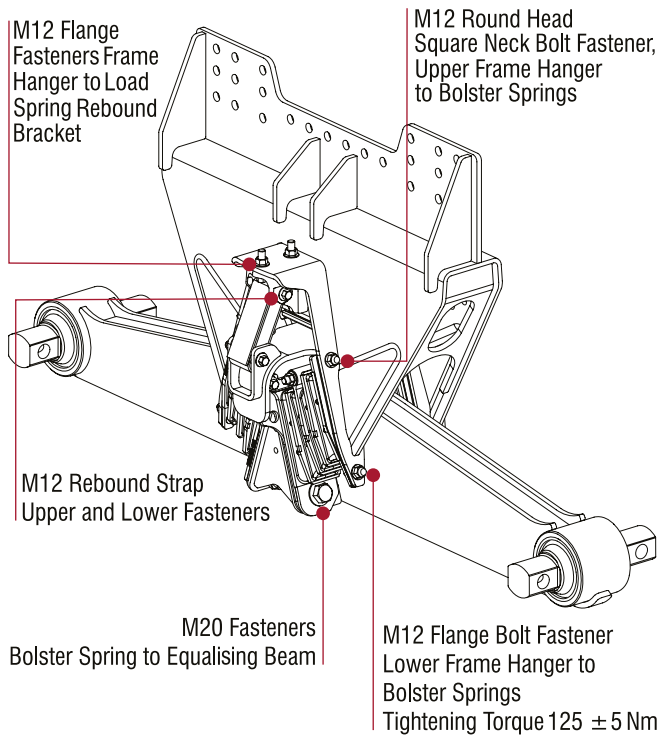

Figure 19: Frame Hanger Fasteners
3. Remove the M12 fasteners from the frame hanger to the tie-bar bolster springs, refer Figure 19.
4. Remove M12 fasteners from frame hanger to load spring rebound bracket, refer Figure 19.